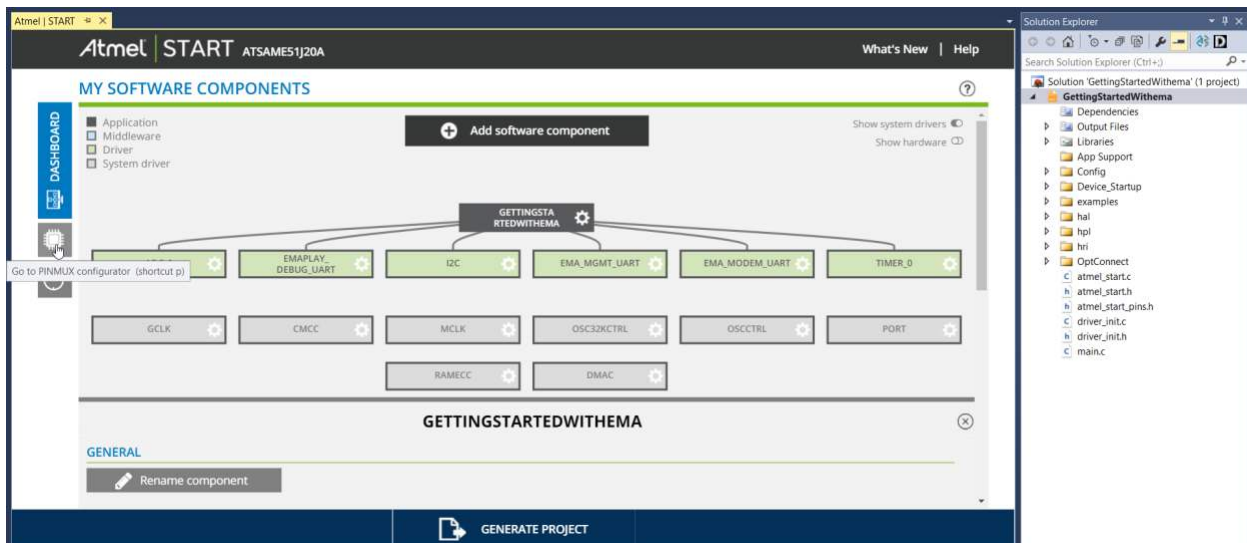

Figure 9
6. **Investigate the PINMUX Configurator in Atmel | Start:** On the left side of the screen, click on the button labeled “Go to PINMUX Configurator” as shown in Figure 9.